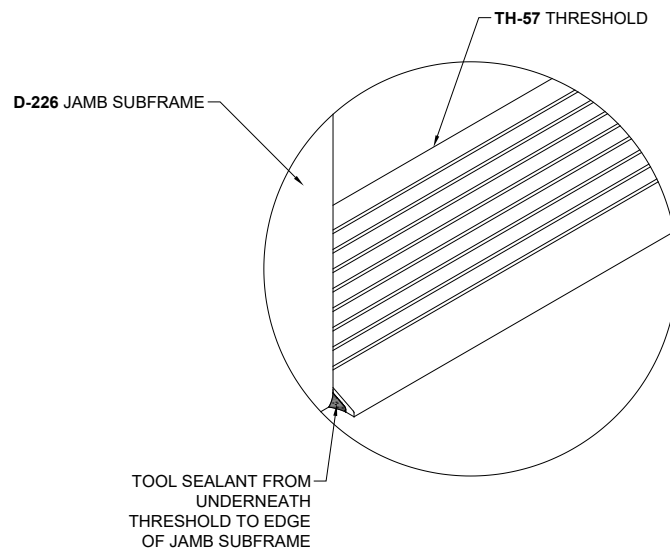

Figure 25: Seal at Front of Threshold
- 9.9 Wipe away excess sealant from Threshold and Mullion/ Jamb Subframe locations immediately after installing. Exposed front ends of Threshold must be sealed after Subframe installation to prevent water encroachment under the Threshold and into the building or substrate. Reference Figure 25.